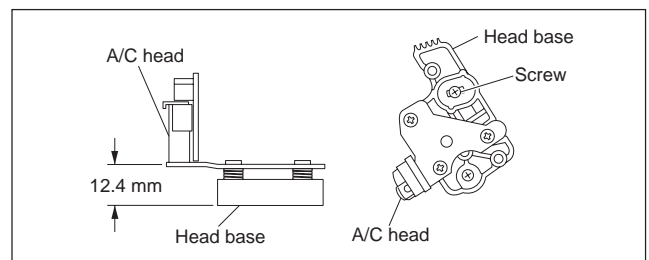

Fig.3-2-6c
- (1) To make the post-installation adjustment easier, set the temporary level as indicated in Fig.3-2-6c. Also make sure that the screw center (centre) is brought into alignment with the center (centre) position of the slot.